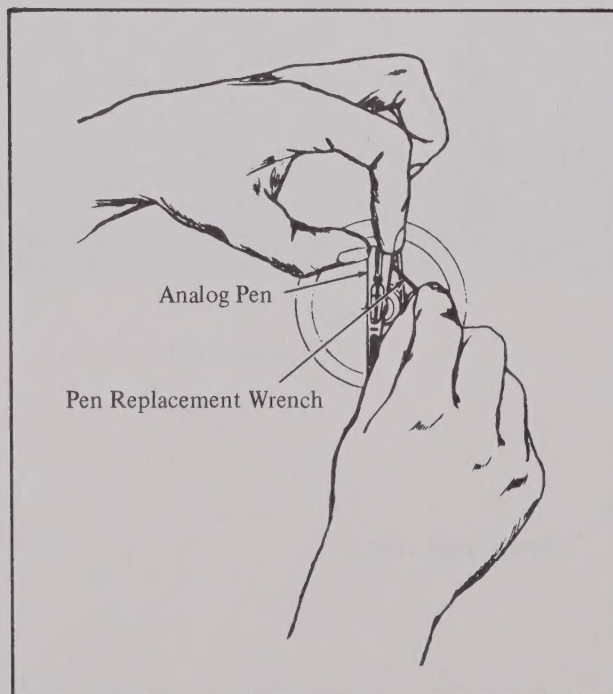

Figure 4.2. Replacing Analog Pen
- c. Use pen replacement wrench (Gould part number 1-120922-2) and loosen set screw one-half turn through access hole in side of pen motor drive arm shaft, and remove wrench. (See Figure 4.2)